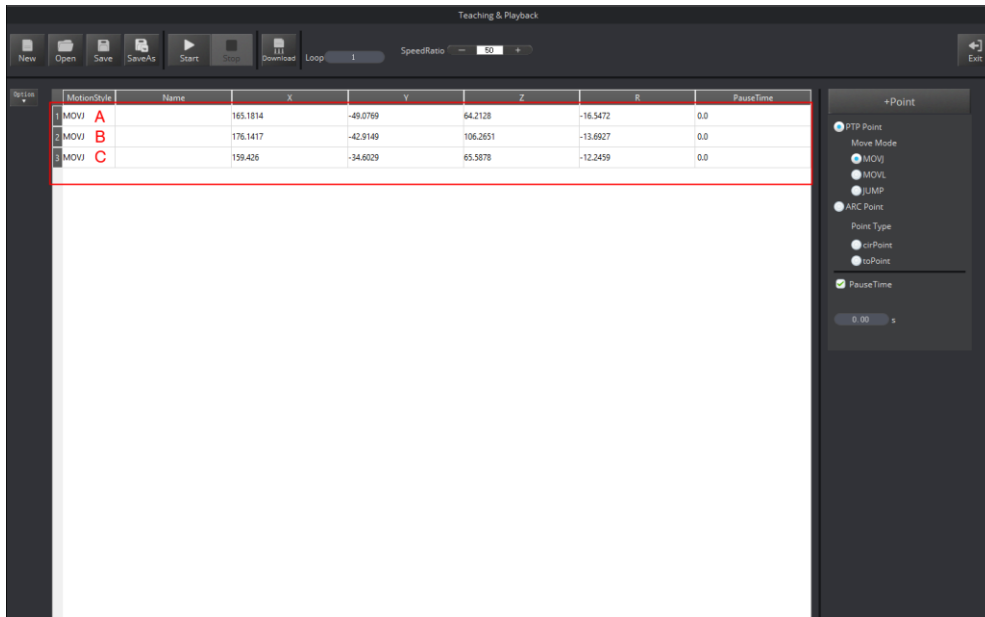

Figure 2.21 The Cartesian coordinates of points B and C
4. Move the robotic arm to the other two locations such as points B and C by referring to the method of creating point A above, as shown in Figure 2.21. The robotic arm will save the Cartesian coordinates corresponding to these two points.